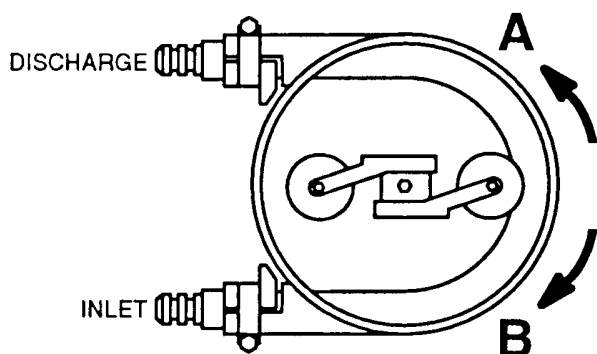

Fig. 2
4. Run the pump and check the direction of rotation ("A" or "B" in Fig. 2). All pumps must rotate in direction "A" (counter-clockwise). To reverse the rotation, exchange two of the three wires that connect the incoming power to the motor.